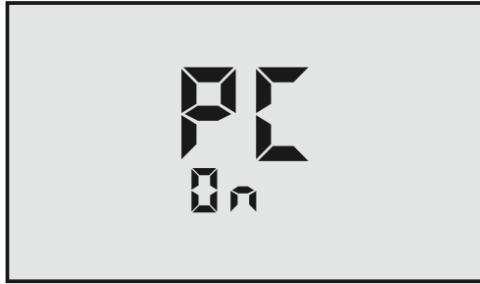

Figure 13
- d. Wait until the LCD changes to read "**PC ON**". (Figure 13)